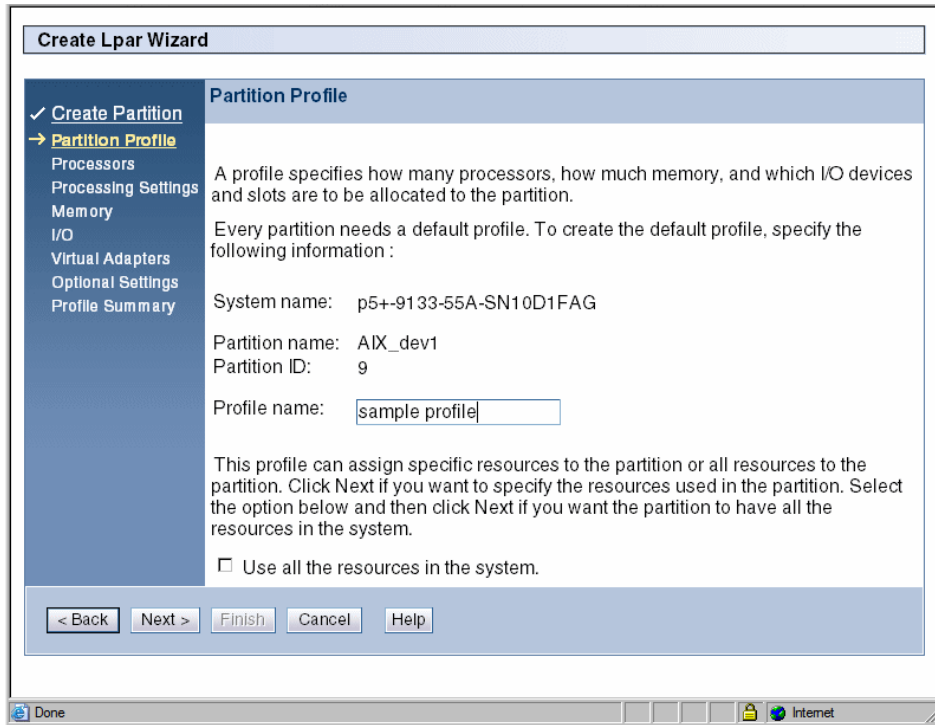

Figure 7-10 Create an AIX partition
2. Enter a profile name for this partition and click **Next** (Figure 7-10). You can then create a partition with either *shared* or *dedicated* processors on your server.